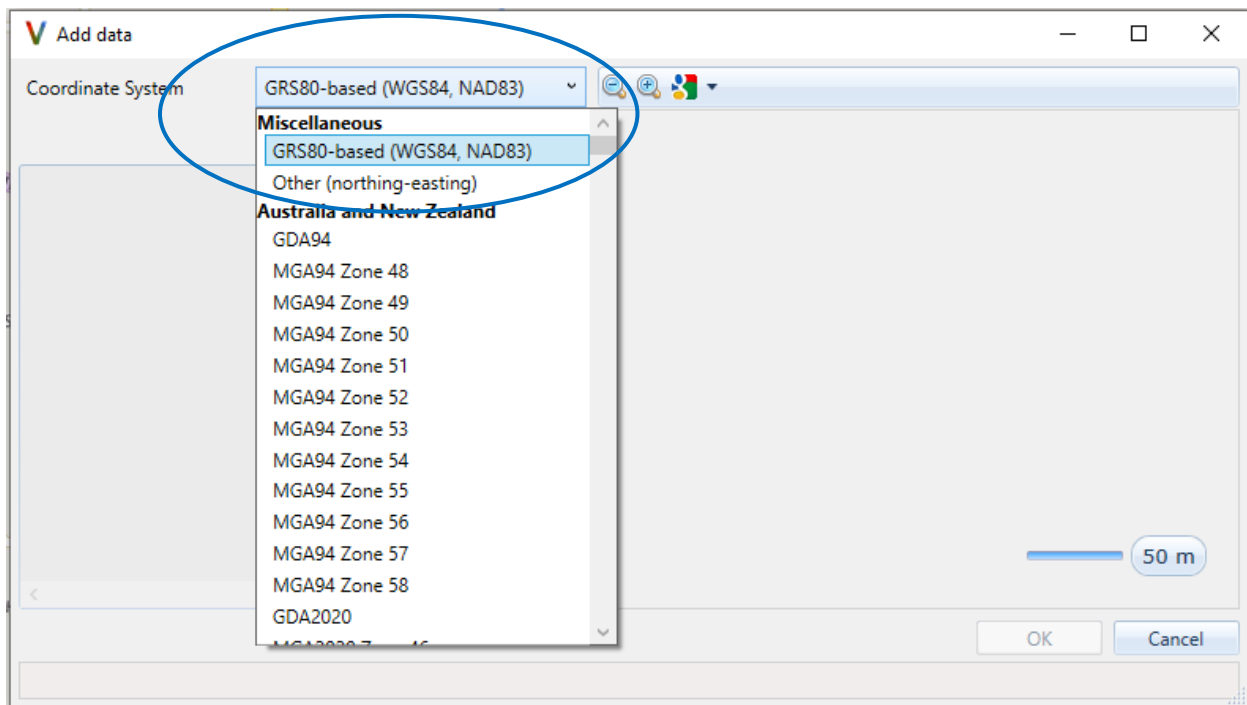

Figure 3. Add data window. Select the correct coordinate system before importing data.
3. Verify the auto-detected GPS coordinate information. Correct or enter any missing information for the coordinate system and units (if applicable). All supported coordinate systems are in the drop-down menu, as shown in Figure 3. Supported coordinate systems include:
Opening data files directly instead of creating a new project is (slightly) more efficient when using manual data import options. Another option is simply to drag and drop data files from File Explorer to the Veta software. Dragging-&-dropping automatically launches the data import wizard illustrated in Figure 3.